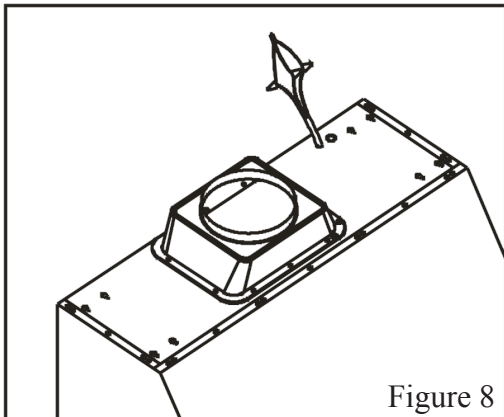

Figure 8
4. Connect the range hood to a designated standard outlet or cut off the plug and connect three wires (black, white and green) to house wires and cap with wire connectors. Connect according to colors (i.e. black to black, white to white, and green to green) as shown in Figure 8.